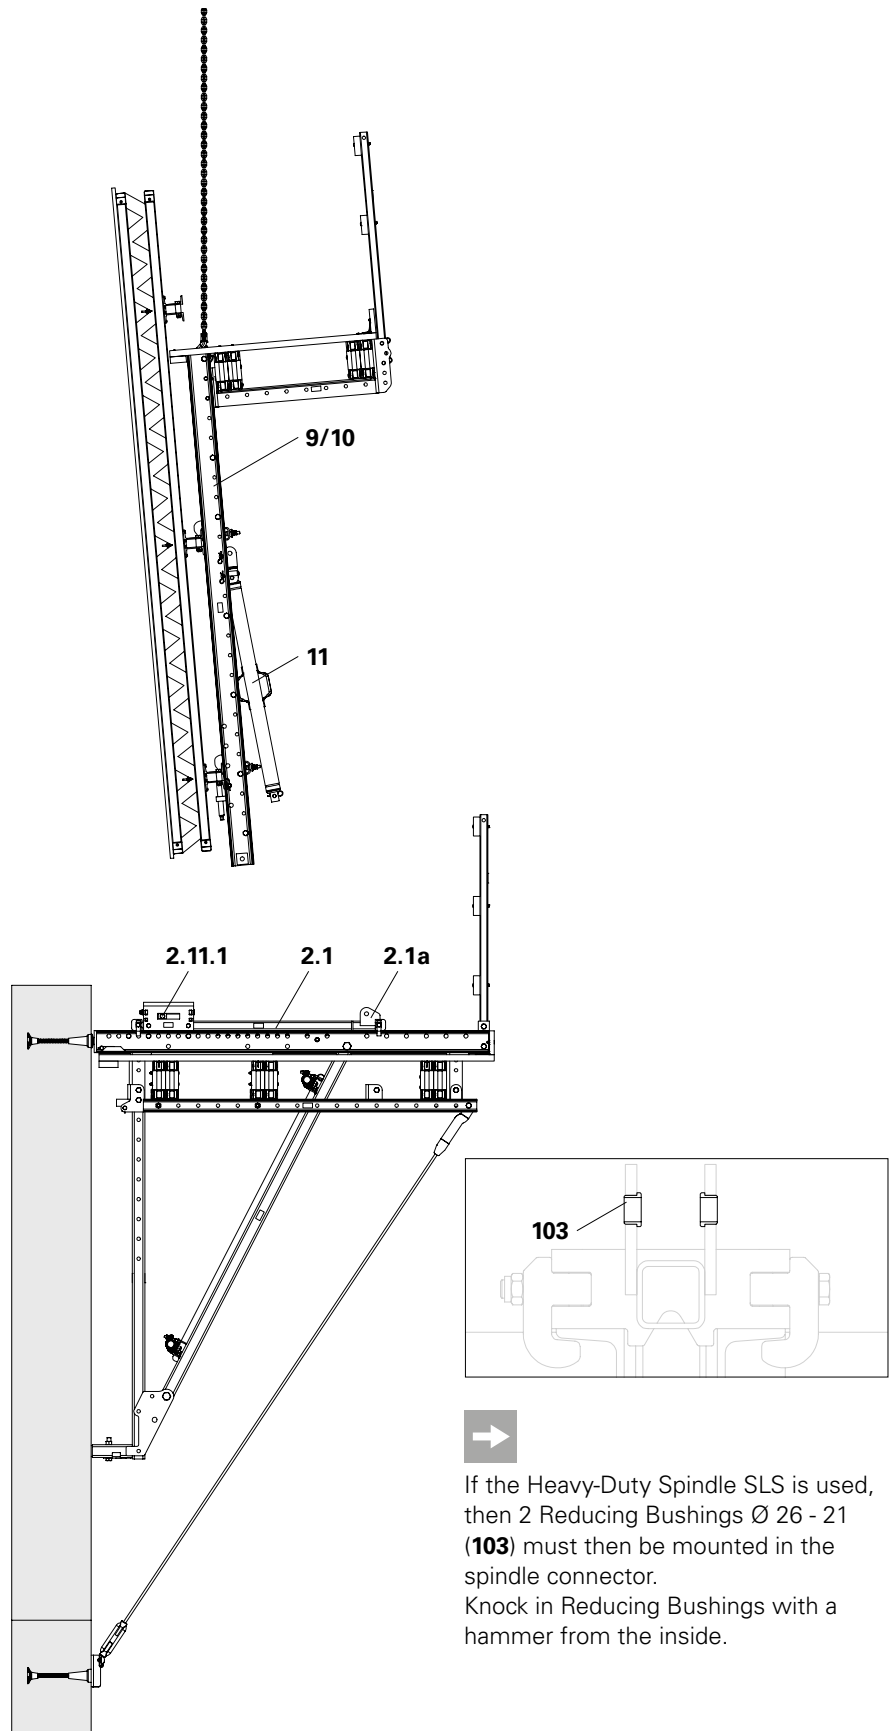

Fig. B3.04
3. Adjust the Heavy-Duty Spindle SLS (11) to the required length and mount on the strongback using locking pin \varnothing 21 mm.
6. If necessary, mount Reducing Bushing \varnothing 26 - 21 (103).
7. Vertically position the formwork, move the heavy-duty spindle (11) into the Spindle Connector SCS (2.1a) and mount using locking pins \varnothing 21 mm.
9. Align formwork (see Section B4). (Fig. B3.04)